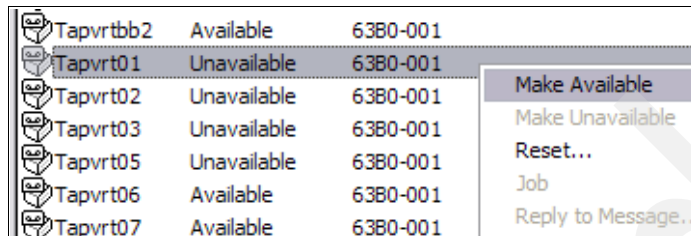
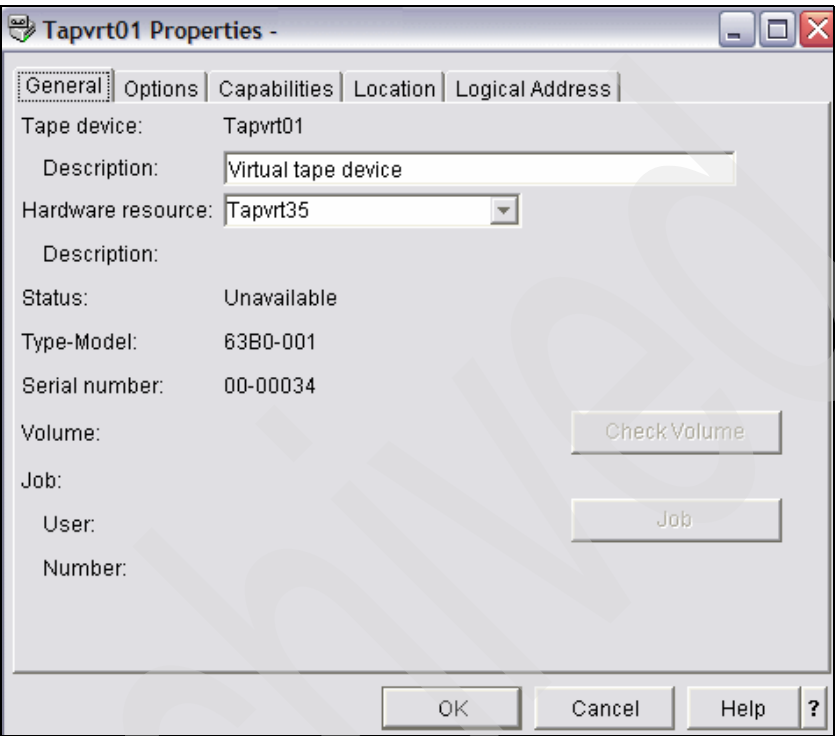

Figure 8-10 Make tape drive available
Figure 8-13 Tape drive properties
9. Right-click tape device Tapvrt01 and select **Make Available**, as shown in Figure 8-10.
Go back to the window shown in Figure 8-10 on page 437, right-click the device, and select **Properties**. A window similar to the one shown in Figure 8-13 is displayed.
Figure 8-13 shows that the status for resource TAPVRT35 is Unavailable. This indicates it is being used by another device (Mervvrt, as shown in Figure 8-14), thus making it unavailable. Click **OK**.